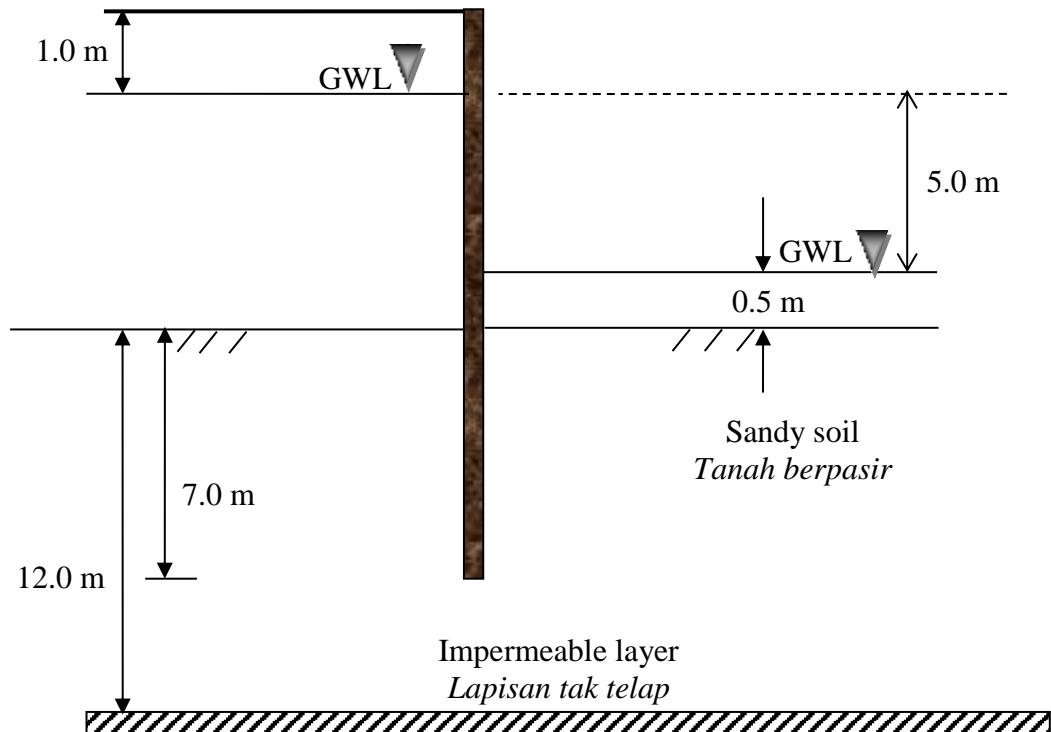

Figure B3(a) / Rajah B3(a)
- (a) **Figure B3(a)** below shows one dig of sheet piling on sandy soil. If the coefficient of permeability (k) is 7.2×10^{-3} mm/sec, determine the quantity of seepage, Q in $\text{m}^3/\text{hour}/\text{m length}$.